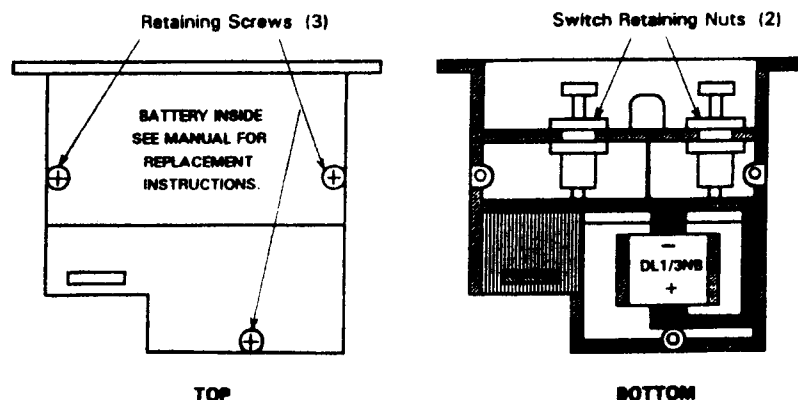

Figure 6. Battery Replacement for ELT Remote Unit
1. Remove the three Retaining Screws which secure the top and bottom half of the remote unit (Figure 6).
2. Loosen the two Switch Retaining nuts located on the front of the unit (Figure 6).
3. Carefully remove the top half of the Remote unit, exposing the battery compartment (Figure 6). If replacing an old battery, carefully inspect the battery contacts for dirt or corrosion. If the contacts need cleaning, use only non-abrasive electrical contact cleaner and a stiff brush. Abrasive cleaners will remove the nickel and gold plating from the contacts. Badly corroded contacts should be replaced.
4. Insert the battery with the polarity as shown in Figure 6. The polarity is also engraved on the bottom of the battery compartment.